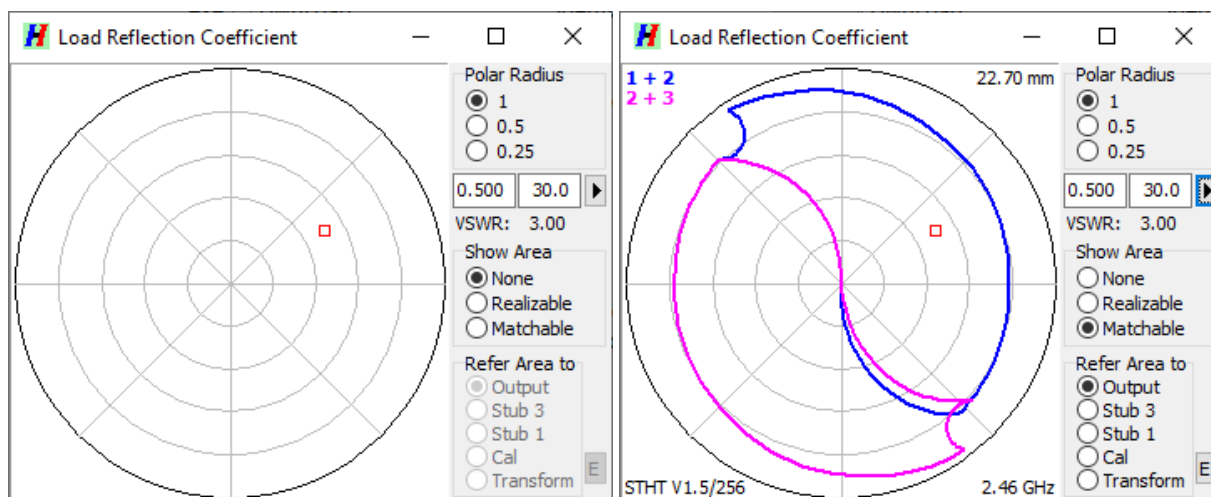

Figure 48. Load Reflection Coefficient window. Right: Matchable area valid for the chosen simulation frequency and maximal stub insertions.
When clicking **Chart** radio button in **Type** group, followed by **Apply** button, the window titled **Load Reflection Coefficient** (Figure 48) will open, containing a polar chart. You are now able to generate the simulated load reflection coefficient by the following methods:
- Click **Chart** in *DUT* page of **Homer Model** window, then **Apply** button. **Load Reflection Coefficient** window (Figure 48) pops up.